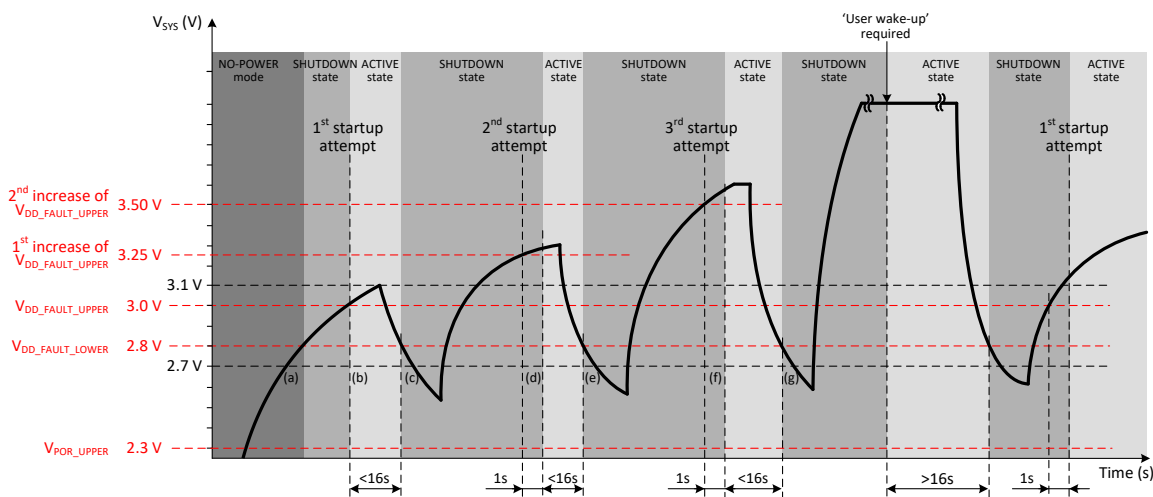

Figure 2: VDD\_START Faults
The DA9061/2 VDD\_START feature prevents endless looping of false starts in a weakly-powered system. VDD\_START limits the number of automatic restart attempts to three. With reference to Figure 2:
- Figure 2(a): The PMIC starts from NO-POWER mode.
- Figure 2(b): First startup attempt. The PMIC transitions to the ACTIVE state when  $V_{SYS}$  rises above  $V_{DD\_FAULT\_UPPER}$ .
- Figure 2(c): If, during the first startup attempt, the  $V_{SYS}$  supply drops below  $V_{DD\_FAULT\_LOWER}$  for more than 100 ms, the PMIC shuts down to the SHUTDOWN state.  $V_{DD\_FAULT\_UPPER}$  is increased automatically by 250 mV. However, the increased  $V_{DD\_FAULT\_UPPER}$  is limited to a maximum of 3.70 V.
- Figure 2(d): Second startup attempt. If  $V_{SYS}$  rises above the new  $V_{DD\_FAULT\_UPPER}$  threshold, then the PMIC will power-up to the ACTIVE state.
- Figure 2(e): If, during the second startup attempt, the  $V_{SYS}$  supply drops below  $V_{DD\_FAULT\_LOWER}$  for more than 100 ms, the PMIC shuts down to the SHUTDOWN state.  $V_{DD\_FAULT\_UPPER}$  is increased automatically by a further 250 mV (500 mV above its original setting). However, the increased  $V_{DD\_FAULT\_UPPER}$  is limited to a maximum of 3.70 V.
- Figure 2(f): Third startup attempt. If  $V_{SYS}$  rises above the new  $V_{DD\_FAULT\_UPPER}$  threshold, then the PMIC will power-up to the ACTIVE state.
- Figure 2(g): If, during the third startup attempt, the  $V_{SYS}$  supply drops below  $V_{DD\_FAULT\_LOWER}$  for more than 100 ms, the PMIC shuts down. From then on, AUTO\_BOOT and wake-up from non-user events are temporarily disabled. 'User events' are defined as an ONKEY press or a GPI passive to active transition where  $GPIO<x>\_PIN = 0b01$  and  $GPIO3\_WEN = 1$ .  $GPIO4$  configured as  $SYS\_EN$  and  $GPIO2$  configured as  $PWR\_EN$  are not 'user events'.